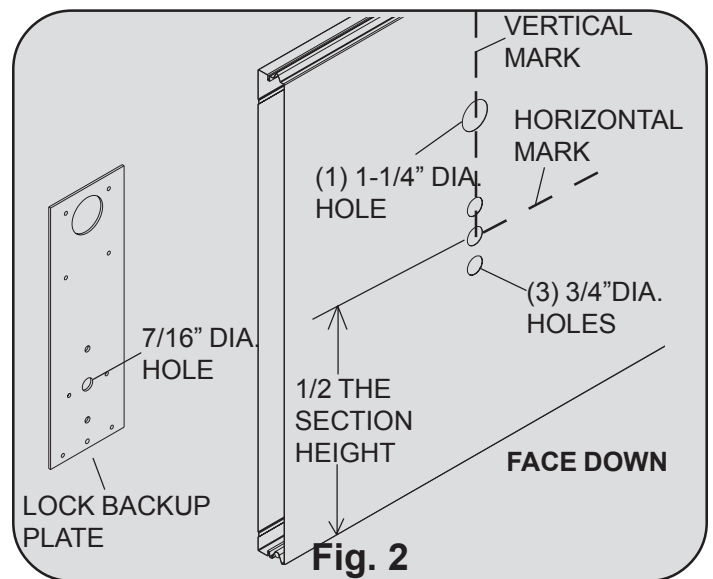

Fig. 2
8300/8500 Series & Wood doors (see Fig.2), place the lock section face up on (2) padded sawhorses for a single car door or (3) padded sawhorses for a double car door. Locate the middle of the center stile, measure the distance from the end of the section to the middle of the center stile. Turn the section face down, transfer the measurement and mark a light vertical line, then mark a horizontal line at half the section height. Align the 7/16" diameter hole of the lock backup plate at the intersection point of the horizontal and vertical marks, use the lock backup plate as a template to mark the (4) holes, remove the lock backup plate and drill the (3) bottom holes to 3/4" diameter and the top hole to 1-1/4" diameter, drilling all (4) holes completely through the section.
Locate the autolatch striker plates over the pre-punched holes in the vertical track nearest the center of the lock section (as shown). Fasten the striker plates to the vertical track using (2) 1/4-20 x 9/16" track bolts and flanged hex nuts. Align the autolatch flippers such that the arm will engage the striker plates. Position the autolatch flipper 1/8" from the edge of the section and secure it to the section with (3) 1/4 -20 x 11/16" self drilling screws (wood doors will use 1/4-14 x 1" lag screws). Bend the bottom edge of the Autolatch flipper arm away from the door slightly for smoother operation (**On 9900 Series doors, bend the autolatch flipper toward the striker plate until it is able to engage (see Fig. 2).**) Feed one end of the lock cable through the slotted hole of an Autolatch flipper and secure with (1) 1/4-20 x 9/16" track bolt. Pull the cable taut, but not enough to lift the flipper out of the striker plate. While holding taut, feed the lock cable through the slotted hole of the remaining Autolatch flipper, secure with (1) 1/4-20 x 9/16" track bolt and flanged hex nut. **NOTE: Ensure that the bolt is through the front of the flippers and the nut is on the back of the flippers with cable going through the front of the flippers.** Operate the lock several times to make sure the Autolatch flippers clear the striker plates when the handle is turned and the flippers engage the striker plates when the handle is released. Adjust the cables if necessary. Trim off the excess cable with wire cutters after the lock is operating satisfactorily.